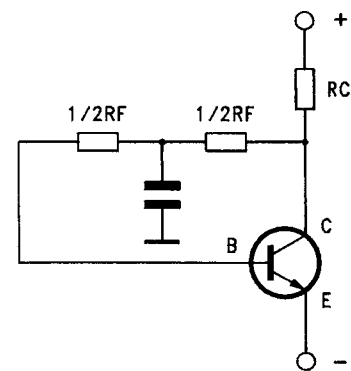

figure B19.4
- in the circuit of fig. B19.4, the mid point of R_F is set to ground by inserting a capacitor